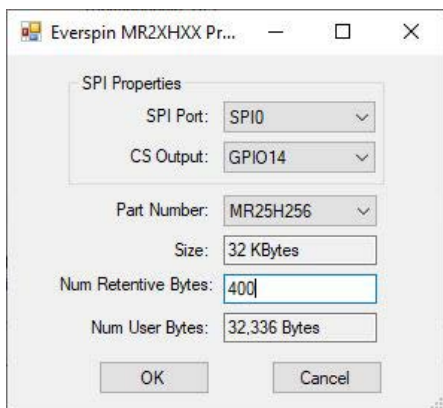

Figure 15-37
Click **OK**. The Everspin MRxHxx Properties dialog will open. This dialog selects the SPI Port, Chip Select, Part number and memory allocation to be used for this Everspin MRxHxx device. See Figure 15-37
Select the SPI port from the drop-down menu and select the general purpose output pin (GPO) that will serve as this device's chip select (CS). See Figure 15-37. Any chip select pins reserved for structured text will not be visible in the drop-down menu.